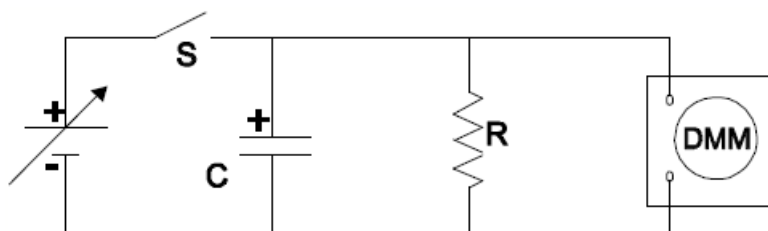

Figure 1
You will measure the voltage across a capacitor as a function of time as the capacitor discharges through a resistor. The simple circuit you will use is shown in Figure 1. The capacitor, C , is an electrolytic capacitor of approximately $1000\ \mu\text{F}$ or 10^{-3}F , with a manufacturing tolerance of $\pm 20\%$. The resistance of the resistor, R , is $100\ \text{k}\Omega$ (10^5 ohms), with a tolerance of $\pm 5\%$. DMM represents the digital multimeter used to measure DC voltage across the capacitor. The idea is simple: by closing switch S , you will charge up the capacitor to approximately 10 volts using the adjustable power supply. The capacitor is connected in parallel with a resistor, so that when you open the switch the capacitor will begin discharging through the resistor. Using a stopwatch and multimeter, you will record the capacitor voltage every 20 seconds until the capacitor has almost completely discharged. The goal is to examine the *exponential decay* of this RC circuit.
- 2 Again, make sure the capacitor is fully discharged. Assemble the circuit shown in Fig. 1 using banana plug cables. NOTE THE CAPACITOR HAS + AND - LEADS. Be sure the + end is connected to the positive (RED) connector on the power supply and the - end is connected to the negative (BLACK) connector.